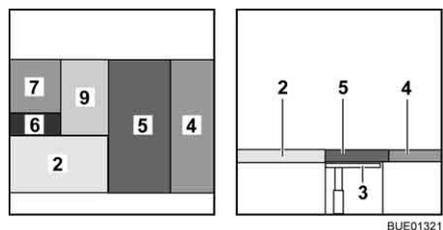

Fig. 141 After conversion
- Unfold the additional cushion (Fig. 141,9) and lay it on the table.
- Place the seat cushion (Fig. 141,5) in the centre.
- Place the back cushion (Fig. 141,4) between the seat cushion and the wall.